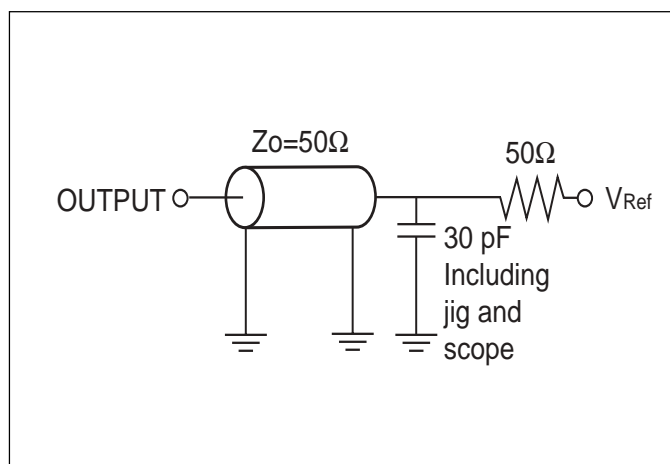

Figure 1a.
Output Load	See Figures 1a and 1b
1. Test conditions assume signal transition times of 3ns or less, timing reference levels of 1.25V, input pulse levels of 0.4V to $V_{DD}-0.3V$ and output loading specified in Figure 1a.